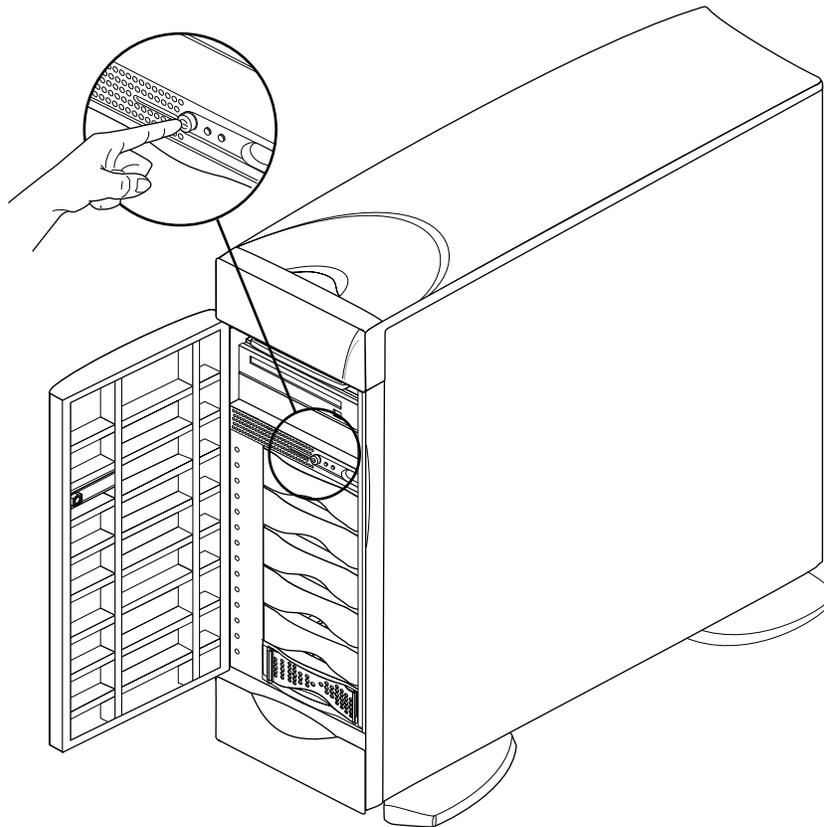

Figure 4-4 Turning Off the Front Power Switch
4. Once you see the System Maintenance Menu, locate the power button at the front of the chassis (the master chassis in a two-module system) and press it once. See Figure 4-4